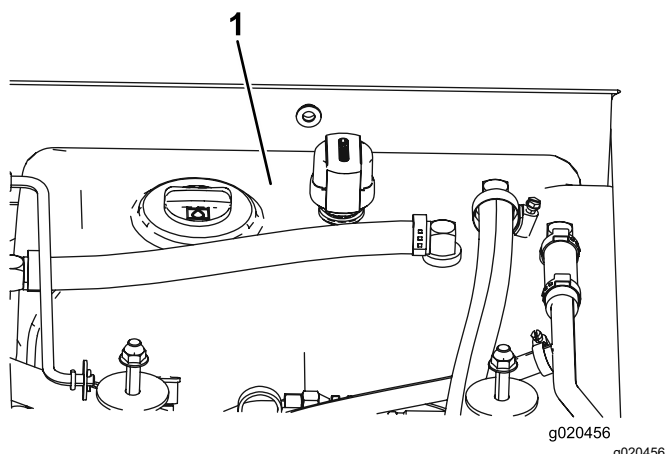

Figure 83
4. Fill the reservoir (Figure 83) with hydraulic fluid; refer to Checking the Hydraulic Fluid (page 69).